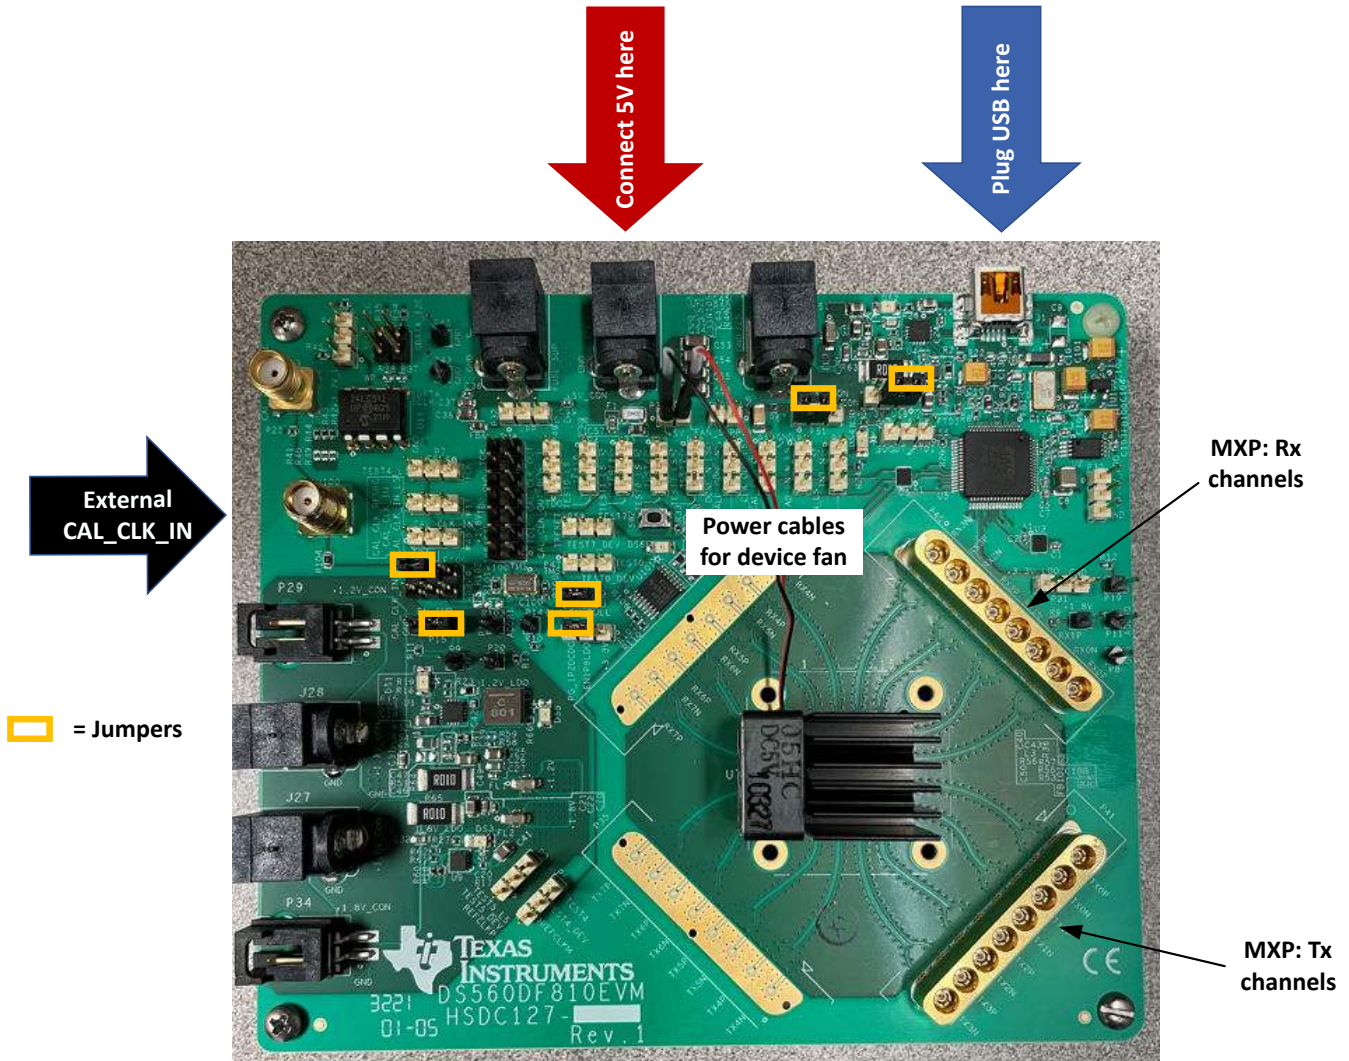
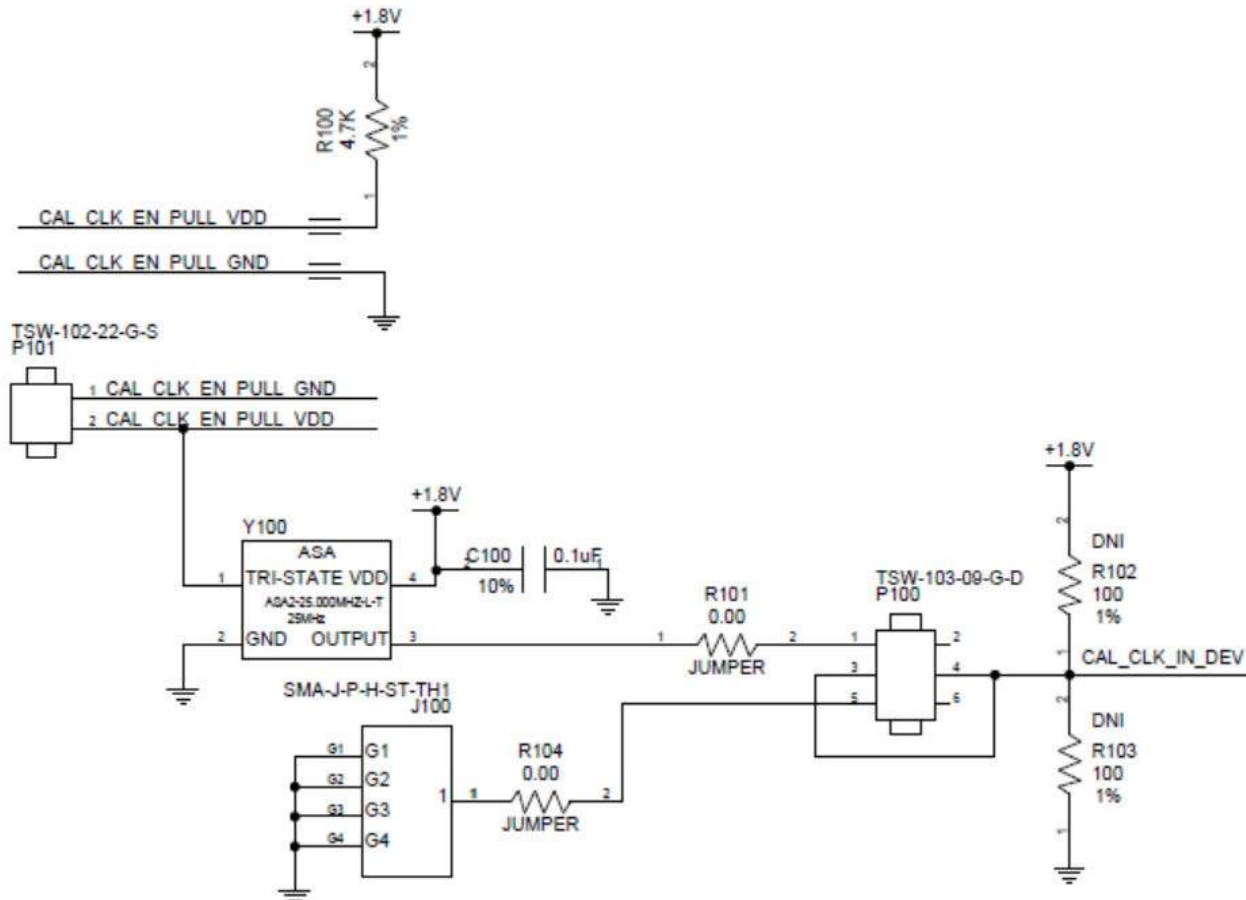

Figure 1-1. DS560DF810EVM Power, Low-Speed Communication, and High-Speed Signaling Connections
Figure 1-3. DS560DF810EVM Schematic Portion for CAL_CLK_IN Input Circuit; Applies to EVM Version Rev 2 and Later
Figure 1-1 shows how the DS560DF810EVM implements a power management solution to enable operation off of a single 5 V/3 A supply (the 5 V connector location is shown in the following figure). The EVM board uses Megtron-6 low-loss dielectric material for its high-speed differential inputs and outputs. The EVM by default implements a pair of MXP connectors to provide robust and high-quality connectivity to its first quad of high-speed channels (for example, retimer channels 0 thru 3.) The EVM also has provision for an EEPROM to be used to program the retimer device.
1. Check the EVM jumper settings to ensure they match Figure 1-1.
Figure 1-3 shows the schematic segment for CAL_CLK_IN. As per the schematic, different jumper placements are used to enable implementation of external CAL_CLK_IN signal or onboard 25 MHz oscillator respectively. For EVM version Rev 2 or later the end user may implement an onboard oscillator to supply the 25 MHz signal for the retimer CAL_CLK_IN input. The EVM version is listed on the bottom right corner of the evaluation board (Figure 1-1 shows the location).